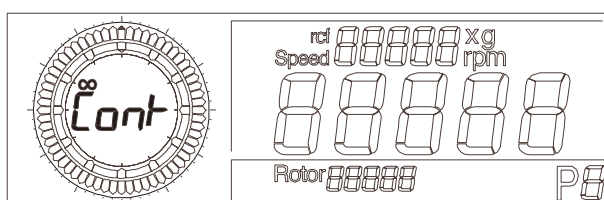

Fig. 5.11: Continuous run display
- Starting with the time setting 11:59, turn the knob clockwise to the next setting. The message “cont” and the symbol “∞” will be displayed (Fig. 5.11).